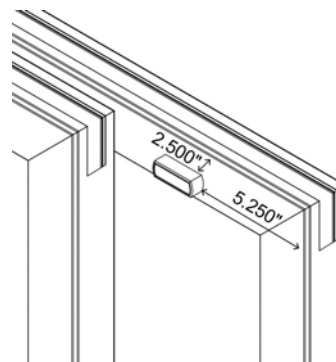

Figure 28
44. Pre-drill two 11/64" (0.171") pilot holes on the inside of each operable panel 5-1/4" in from the right side of the panel and 2-1/2" down from the top of the panel to the edges of the come-along base (Figure 28). Attach the panel come-along (Item 35) using two screws (Item 44). Snap the panel come-along cover over the come-along base.
WARNING: Do not install panel come-alongs in any other area than shown in Figure 28; doing so could cause damage to the frame or glass. Using longer screws can cause interference or operational problems.